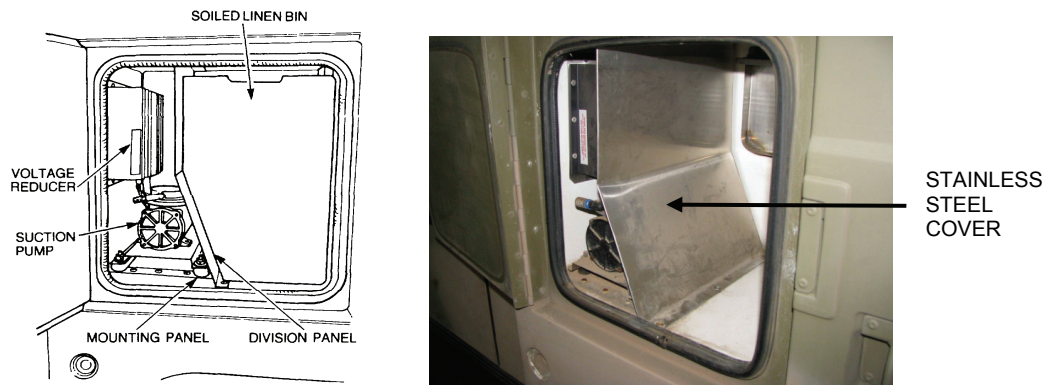

Figure 1 Suction Pump Cavity
- c. Remove the six screws securing the stainless steel cover plate and remove the stainless steel cover (Figure 1).